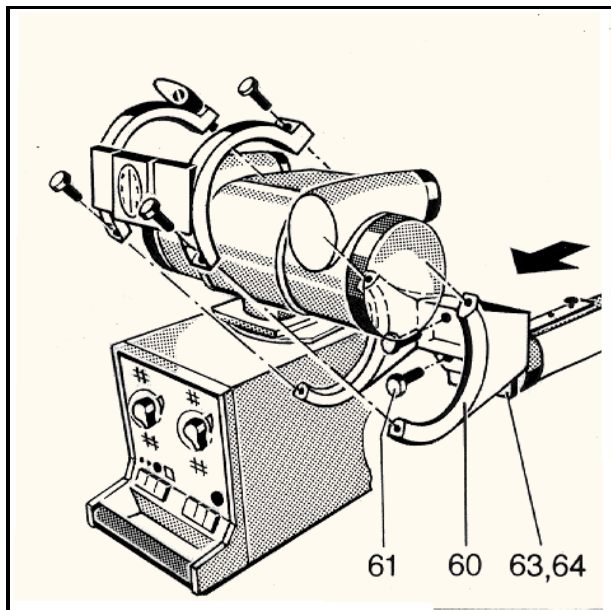

Fig. 15
Dismount X-ray tube from GE trunnions (Fig. 15/item 60). Mount trunnions to tube support arm (item 63) with screws (item 61).